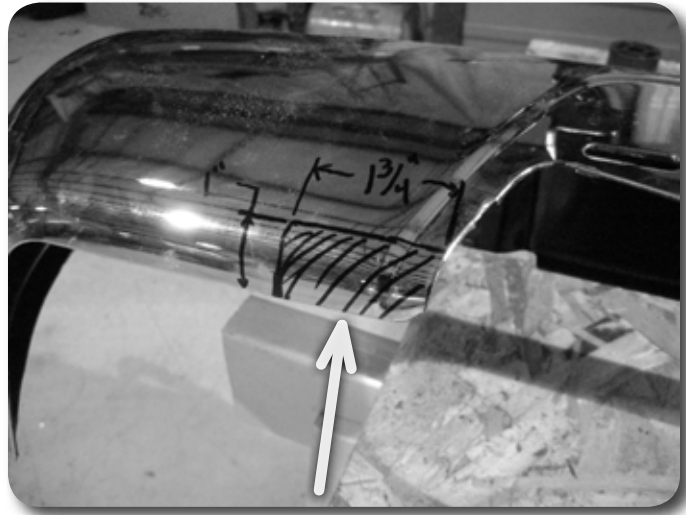
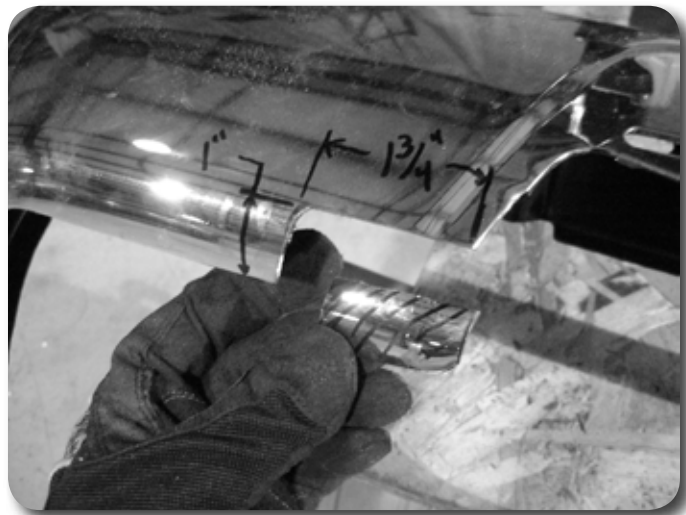

Figure 8A
Figure 8B
10. The two inside lower corners of the bumper shell must be trimmed to clear the bumper structure when lifted. Measure up from the bottom edge 1" and out from the inside edge 1-3/4". **Figure 8A** Using cut-off tool (recommended) or reciprocating saw, cut the two rectangular sections from the shell. **Figure 8B** Remove any burrs/sharp edges and tape off the immediate area around the cut. Paint the bare metal edge of the cut (clear coat paint works good for this).